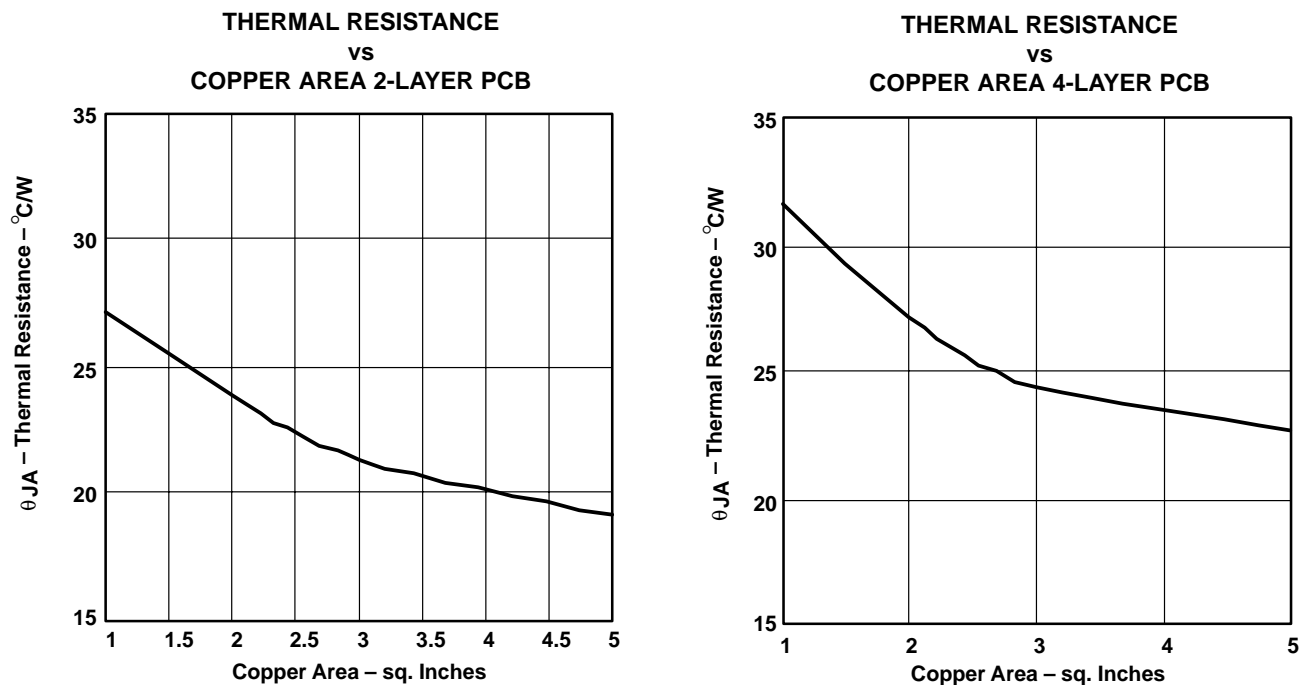

Figure 38. Thermal Resistance
$$\Theta_{JA} = 19^{\circ}\text{C/W} \quad (2\text{-Layer PCB, } 5 \text{ sq. in. copper, see Figure 38}) \quad (8)$$
Figure 38 shows two curves for a 2-layer and 4-layer PCB. The 2-layer PCB layout was tightly controlled with a fixed amount of 2 oz. copper on the bottom layer of the PCB. The amount of copper is shown on the x-axis. Nine thermal vias of 13 mil (0.33mm) diameter were drilled under the PowerPad and connected to the bottom layer. The top layer only consisted of traces for signal routing.